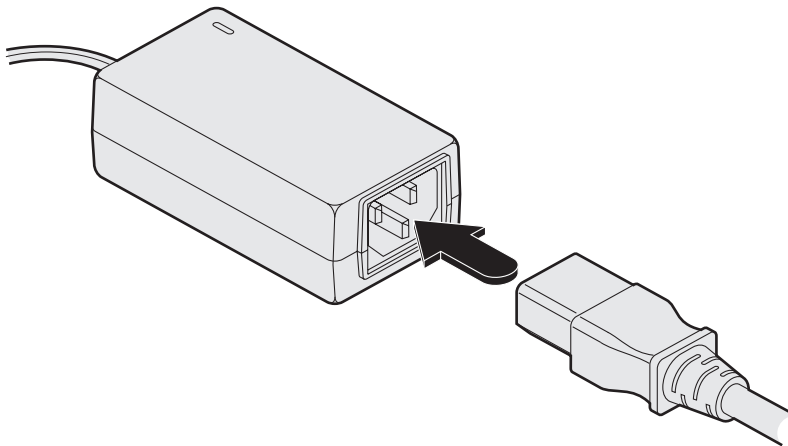

Figure 3-12. Attaching the IEC connector of the power lead to the adapter.
- 2 Connect the IEC connector of the supplied country-specific power lead to the socket of the power adapter. See Figure 3-12